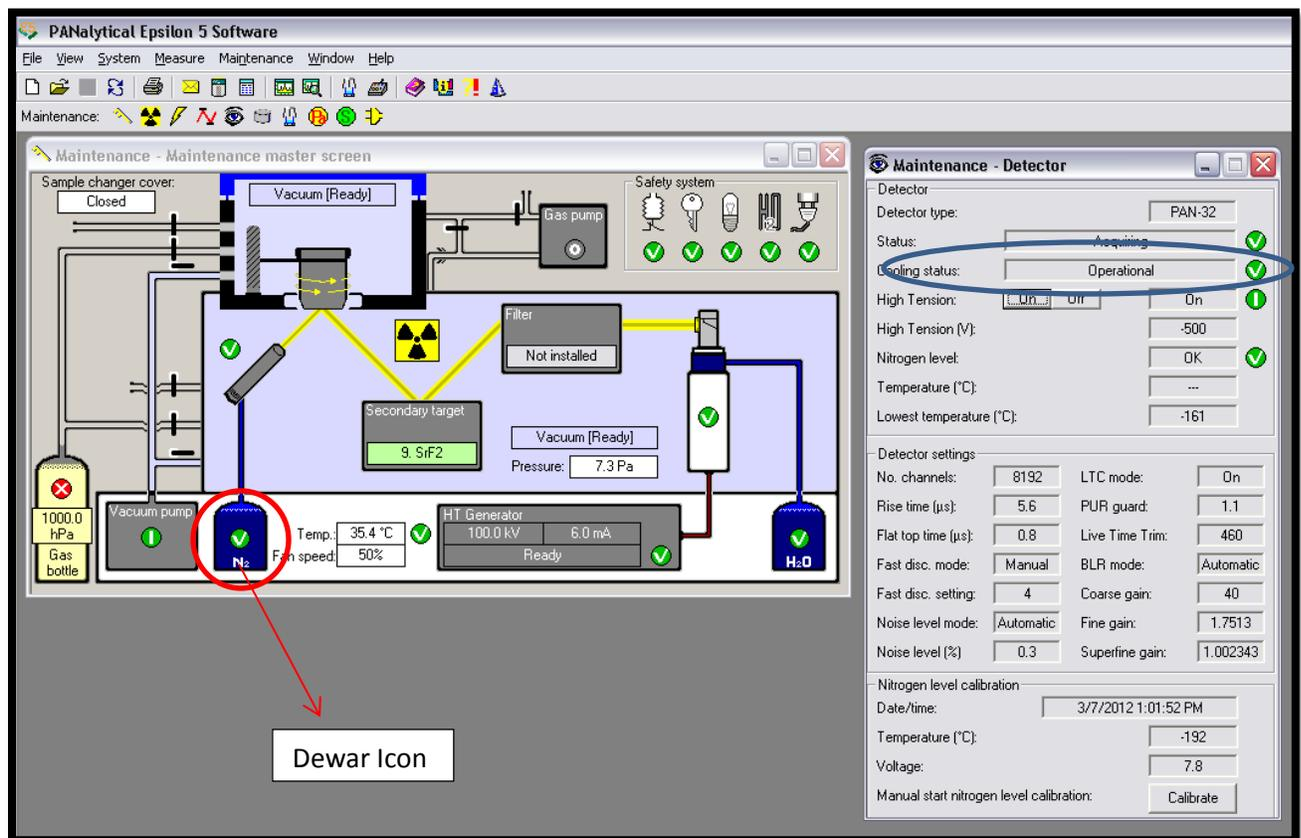

Figure 1. Maintenance Master Screen.
1. The Epsilon 5 has several potential “detector states” that are displayed on the Maintenance screen (circled in blue in Figure 1). These detector states include Pre-Operational, Operational, Long Grace, Short Grace, Filling Allowed, Cooling, and Forced Heat-Up. Ensure that the detector state is not in Forced Heat-Up prior to filling the detector with liquid nitrogen. Check this by clicking on the picture of the liquid nitrogen dewar (circled in red in Figure 1).